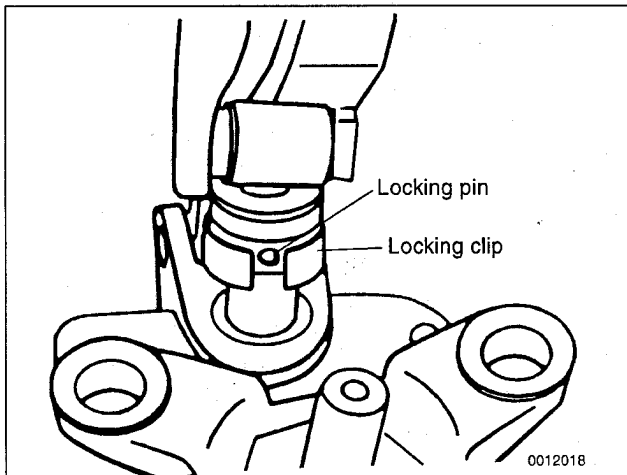

**Fig. 2.** Disconnect shift linkage from transmission selector shaft by prying back locking clip and pushing locking pin out.
5. Working at rear of selector shaft, disconnect shift linkage from selector shaft. See Fig. 2.